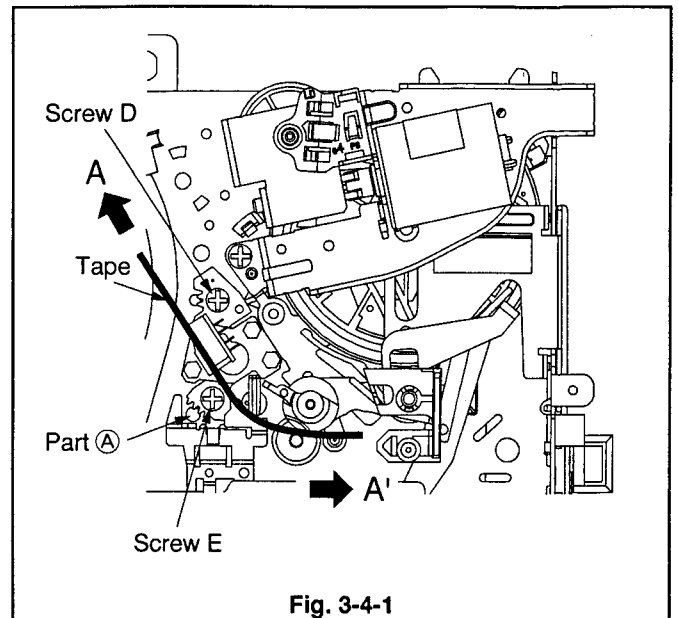

Fig. 3-4-1
4. Loosen the Screws D and E shown in the Fig. 3-4-1. Insert a screw driver (+) into the Hole in the MAIN PLATE ASSY (Part A) and move the A/C PLATE to the right and left to set the amplitude level of the FM Waveform to maximum. (Adjust the FM Waveform to be the maximum when the waveform at TP2H is High.)
13. Push the A/C HEAD to the right and left (in the direction of A-A' in the Fig. 3-4-1) and release it. Confirm that the amplitude of the FM Waveform does not change, compared to before the A/C HEAD was shifted.